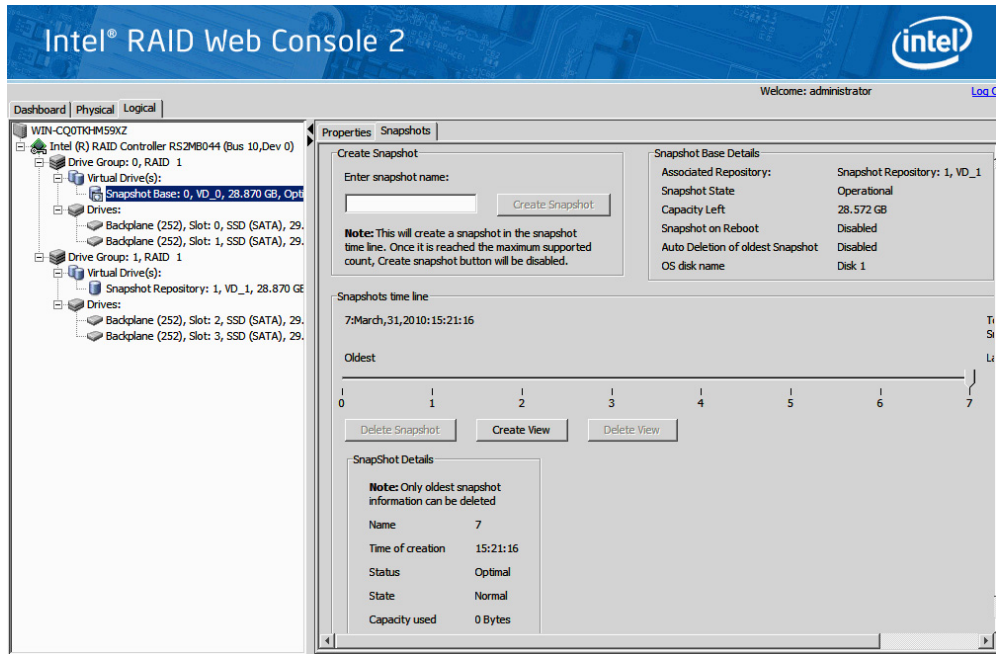

Figure 111. Create Snapshot
23. After snapshots are successfully created (in step 12, Figure 111), following steps roll back to a snapshot at a previous Point in Time (PiT).